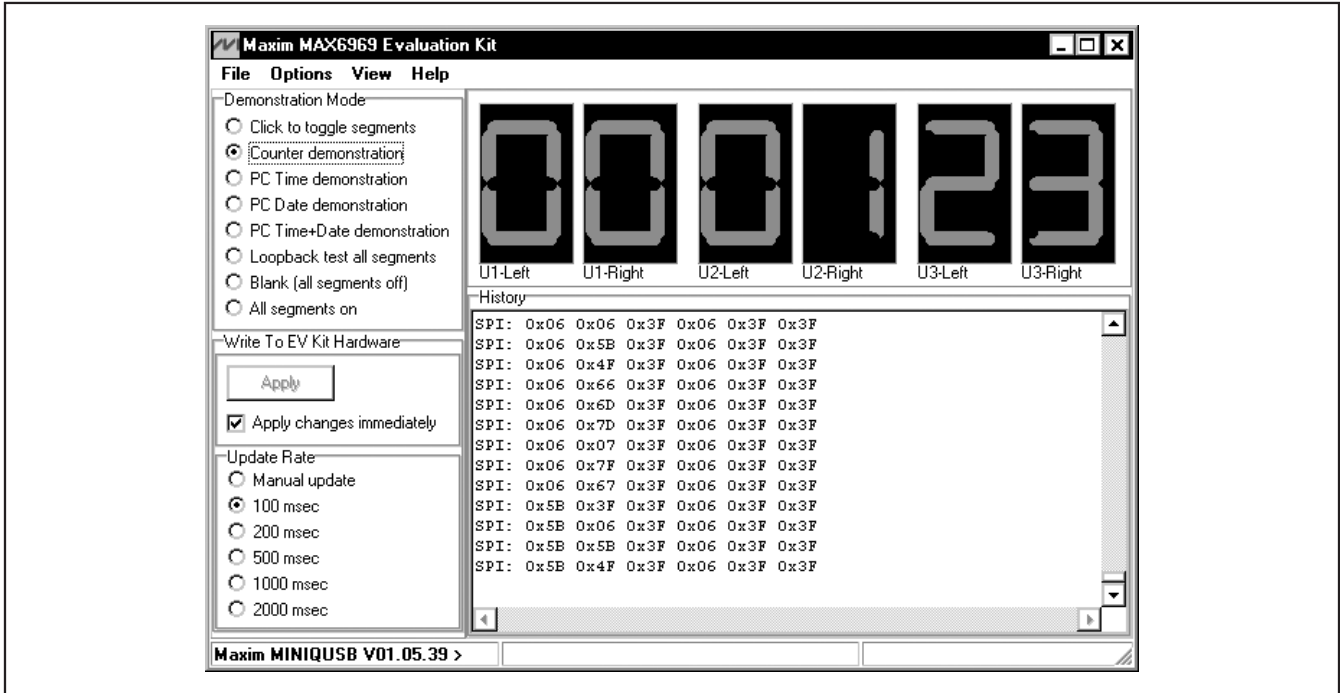

Figure 1. The MAX6969 EV Kit Software's Counter Demonstration (shows the 7-segment display counting up in decimal)
- 9) In the **Demonstration Mode** group box, click on the **Counter demonstration** radio button. The 7-segment LED display will count in decimal, as shown in Figure 1.